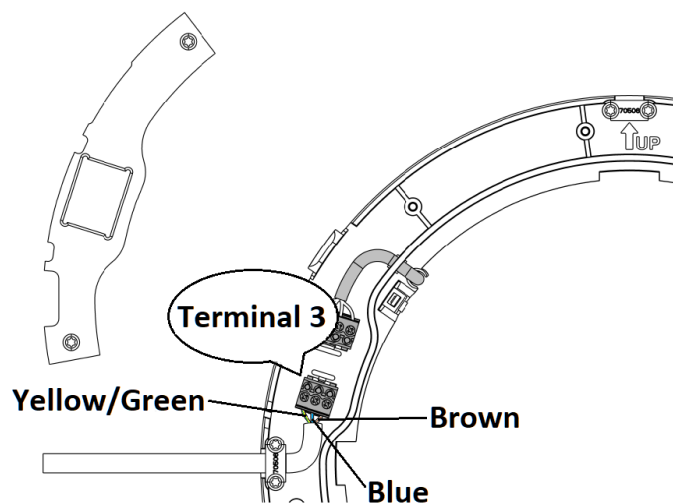

Figure 38 - Connecting the left side cable and wiring
3. Connect the 230V cable to terminal 3 with the shown color codes, see Figure 38 below.